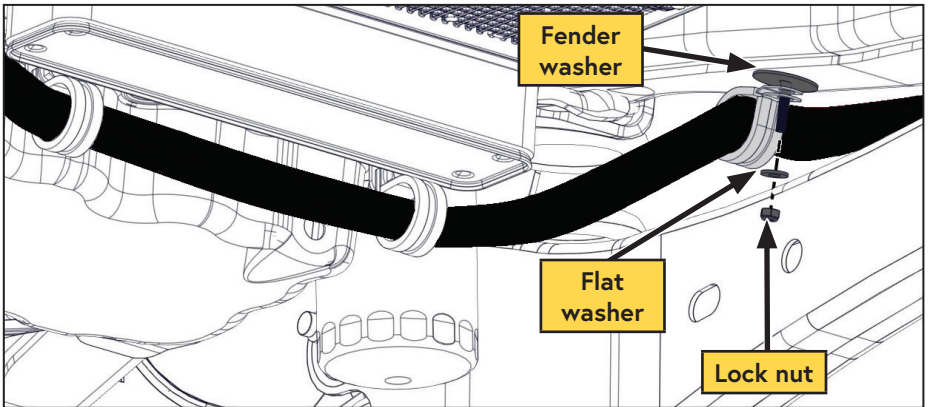

Figure 67 — Routing the hoses
- ☐ Install the fender washer onto the discharge hose strap stud and secure the discharge hose to the frame using the P-clip (Figure 67).